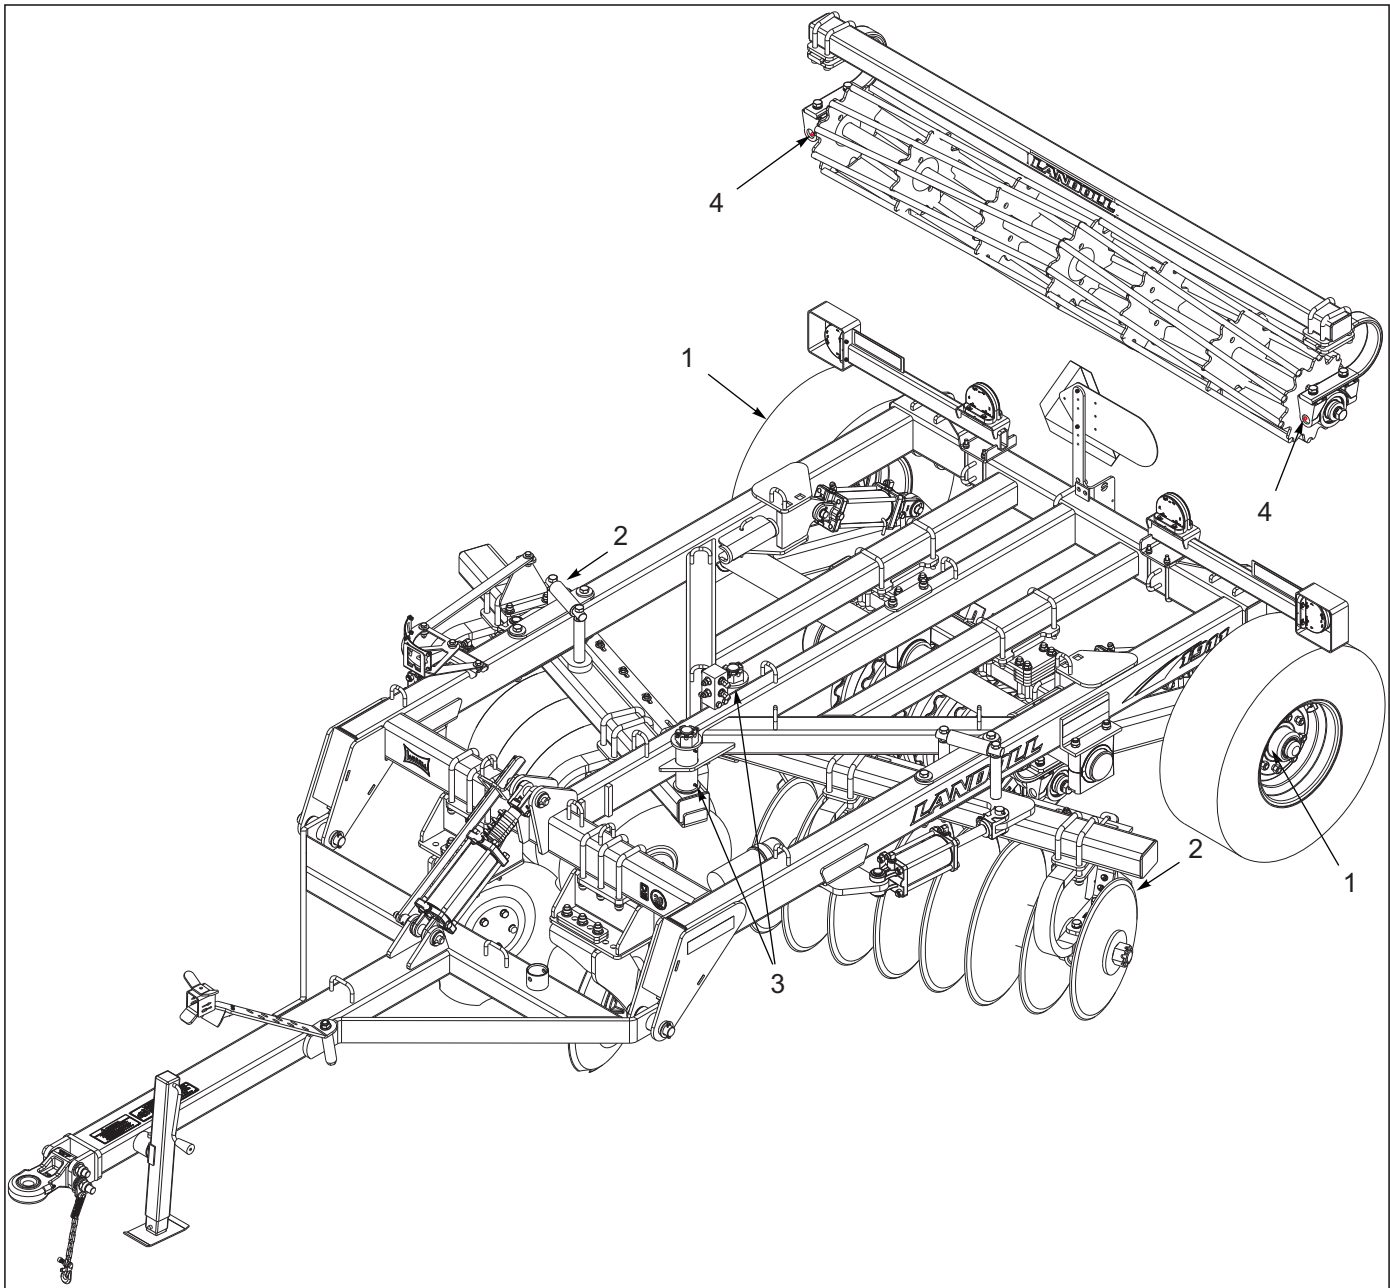

Figure 4-12: Lubrication Schedule
2. A proper maintenance schedule will insure a long operating life and peak performance. Performing the following lubrication guidelines will ensure maximum operating life of the 1911 Filloll *See Figure 4-12* and *Table 4-1*.